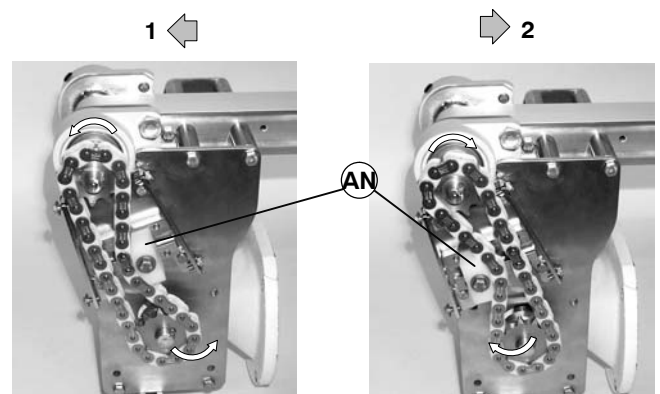

Figure 30
- Loosen four set screws (AM) and (AP).
- Remove timing chain (L) and sprockets (M and Q) from conveyor input shaft and gear reducer output shaft. Make sure to retain sprocket keys.
- Depending on conveyor belt travel (direction 1 or 2 of Figure 30), locate timing chain tensioner (AN) as shown. Do not tighten tensioner screw.